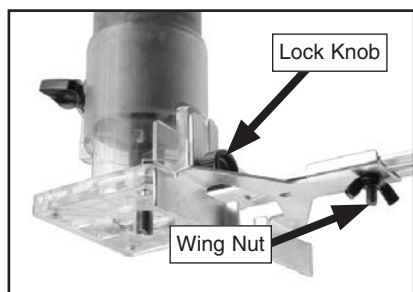

Figure 8. Straight guide installation.
1. Slide the straight guide onto the base plate as shown in **Figure 8**, then set the guide height and tighten the lock knob.